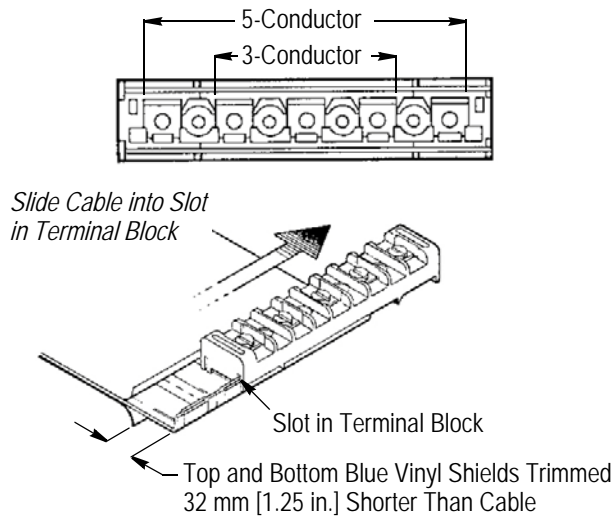

Figure 2
2. Trim the top and bottom blue vinyl shields of the cable to 32 mm [1.25 in.] shorter than the cable. Refer to Figure 2.